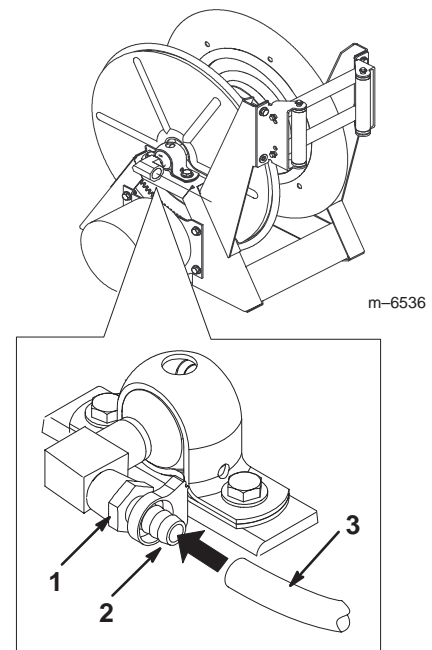

Figure 12
13. Wrap Teflon tape from around the threads of a barbed fitting (1/2 inch) while the face of the gauge is facing you and install it into the inlet port on the side of the hose reel (Fig. 12).
14. Connect the end of the hose to the fitting on the hose reel (Fig. 12) and secure both ends with 2 small plastic hose clamps.